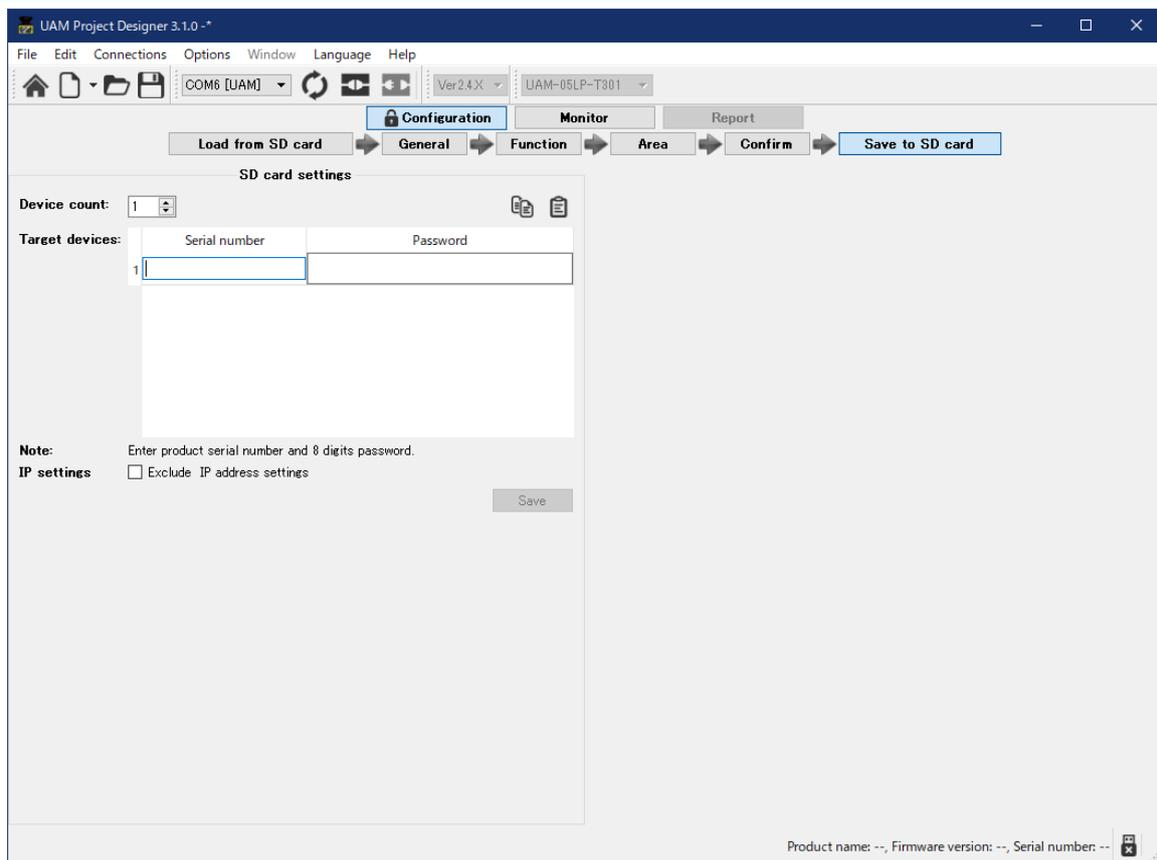

Figure 7-60 SD Card setting screen
- e) In the SD card setting tab (Figure 7-60), enter the serial numbers and the 8-digit passwords of all the UAMs intended to be configured with the settings on the SD card. To prevent the change of IP address of the UAM, check the “Exclude IP address setting” on the tab. This will retain the original IP address of all the UAM.